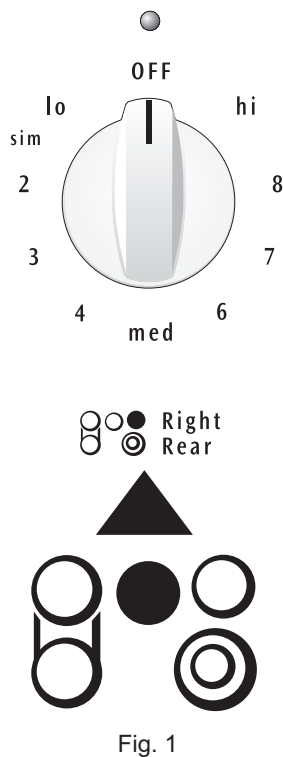

Fig. 1
1. To set the control, push in and turn the knob. The **On** indicator light will come on (See Figs. 1 and 2). The temperatures are approximate, and are designated by HI, MED and LO. However, the control can be set at any position between HI and LO for different levels of heating (Fig.1).
2. When done, turn the control to OFF. The **Warming Zone Hot surface indicator light** will remain on until the **Warming Zone** cools to a moderate level (See Figs. 1 & 2).